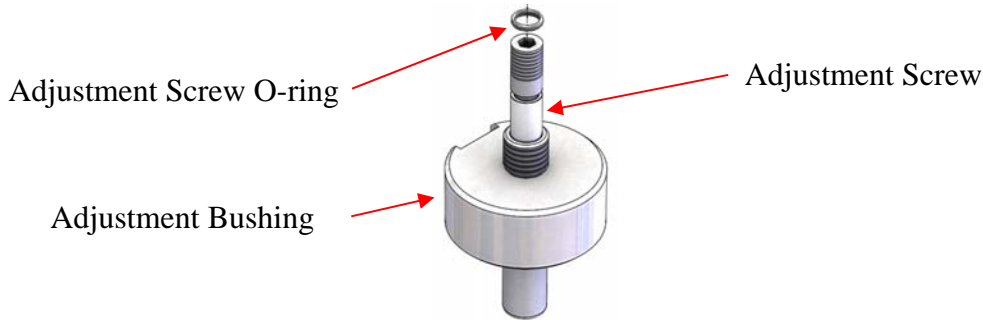

Figure 21: 2" Body Inner Bonnet Components
- 12. Remove and discard the adjustment screw o-ring. See Figure 21.